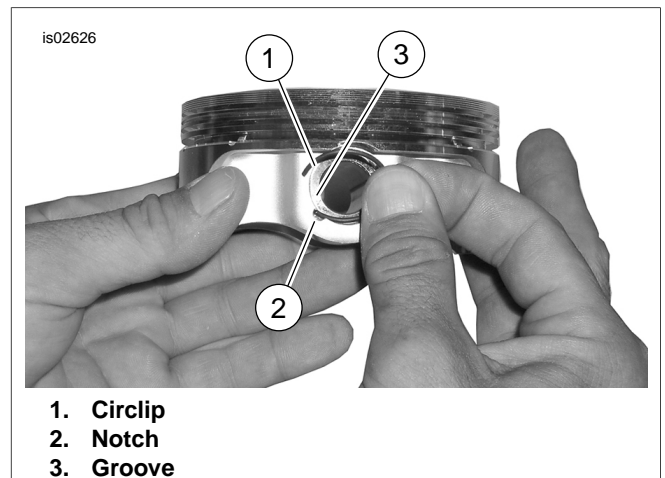

Figure 3. Circlip and Piston
- See Figure 3. Insert the open end of the circlip (1) into the notch (2) on the groove (3) around the piston pin boss so that the gap is at the 12 or 6 o'clock position when installed.